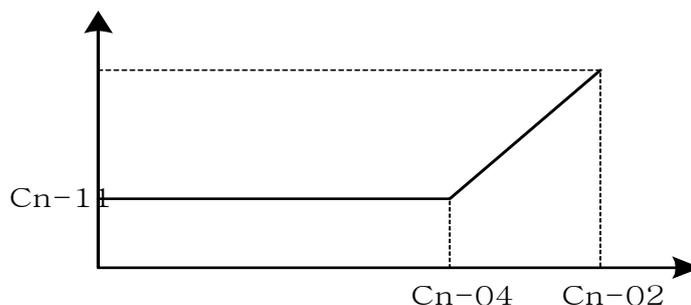

Fig 20 Slip compensation limit
- The setting is shown in Fig 20 in the constant torque and constant output range. If setting Cn-11 is zero, no slip compensation is used.